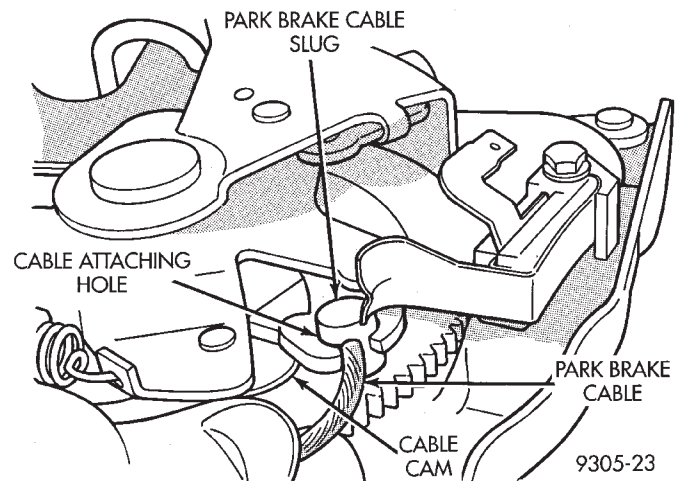

Fig. 20 Park Brake Cable Installed On Pedal Assembly
(1) Install park brake cable assembly, through cable mounting in park brake pedal mechanism.
(2) Align park brake cable slug with attaching hole on park brake assembly (Fig. 20). Install park brake cable into cable attaching hole in park brake assembly, and rotate cable into place. Be sure cable is properly seated in the cam surface track of foot lever assembly (Fig. 20).